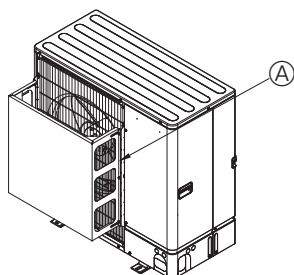

Fig. 2-22
- ② Install an optional air guide if the unit is installed in a location where strong winds from a typhoon, etc. may directly enter the air outlet. (Fig. 2-22)